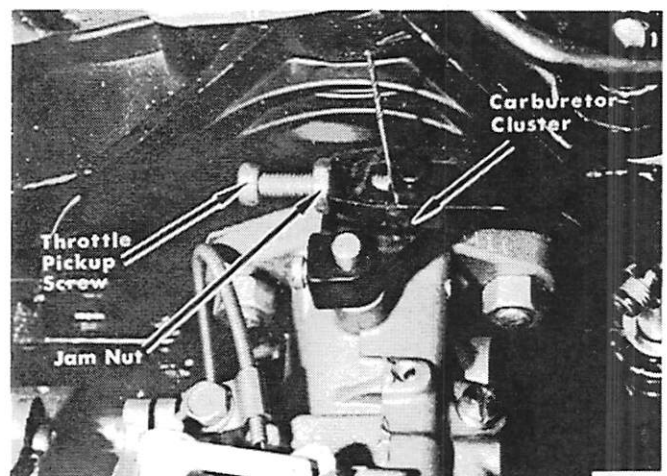

Figure 3. Throttle Pickup Screw Just Touching
9. Adjust throttle pickup screw until end of screw just touches pin on carburetor cluster. (Figure 3) Tighten jam nut after adjustment is completed.
6. Adjust throttle pickup screw until end of screw just touches pin on carburetor cluster. Tighten jam nut after adjustment is completed. (Figure 3)